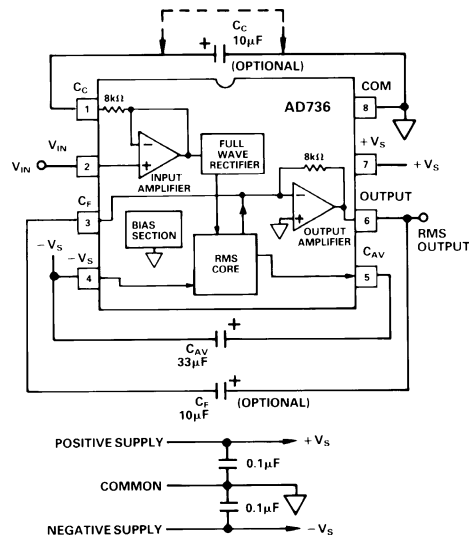

Figure 16. AD736 True RMS Circuit
- ¹Accuracy is specified with the AD736 connected as shown in Figure 16 with capacitor C_c.
As shown by Figure 16, the AD736 has five functional subsec-